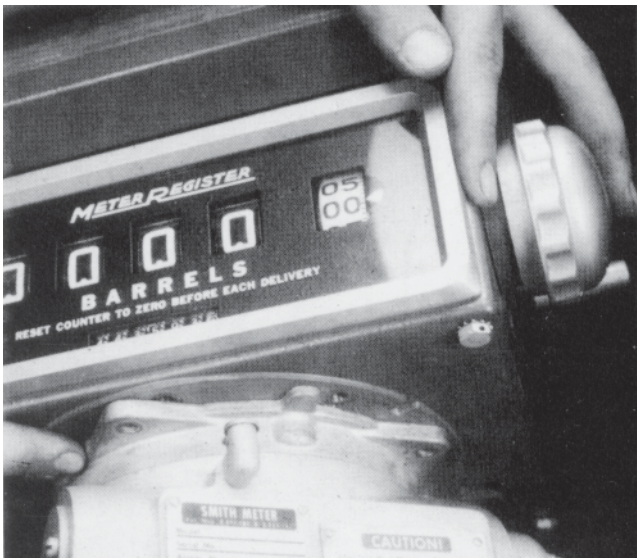

Figure 3 – Positioning Counter
10. A counter may be located in any one of eight positions, Figure 3.